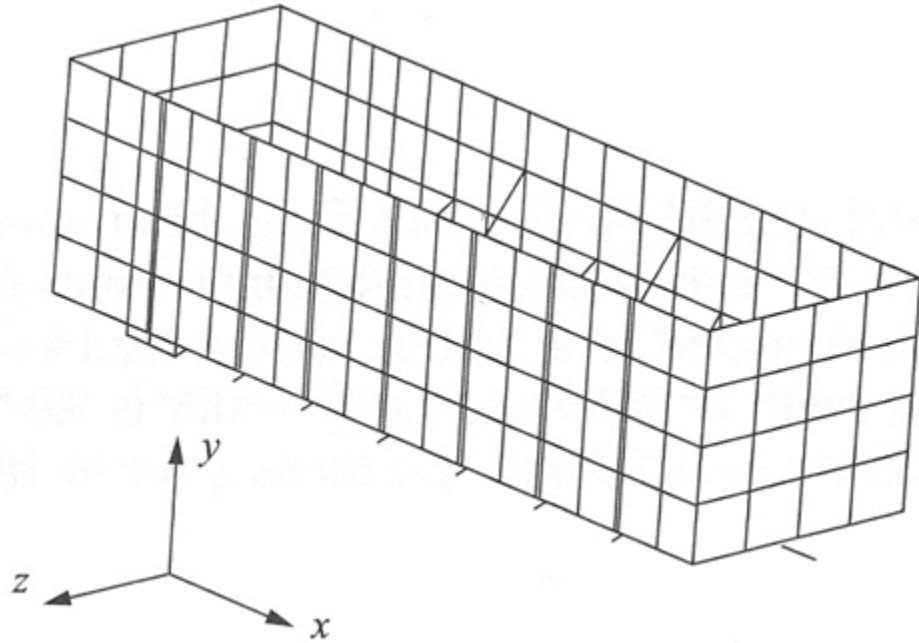

Fig. 2.1 Steel box structure
**Problem Statement:** Design a steel box structure that is 4 ft wide by 8 ft long by 8 ft high (Fig. 2.1). The 4 sides are made of thin plates and steel ribs. Assume that the loading is from wet soil (density of  $62.5 \text{ lb/ft}^3$ ) and varies linearly with depth. The soil loading can act only on the long sides and is normal to the surface (z-direction). The allowable deflection is 1 in and the allowable stress is 20 ksi. Determine the thickness of the plate and the type and dimensions of the ribs.